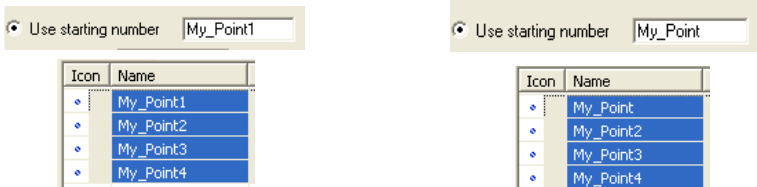

Figure 5-18. Change Point Names – Method One
- renaming the point name (Figure 5-18 on page 5-17)